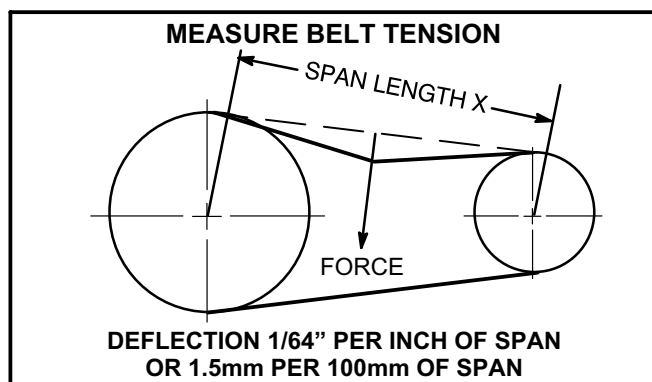

FIGURE 22
- 1- Measure span length X. See figure 22.
- 2- Apply perpendicular force to center of span (X) with enough pressure to deflect belt $1/64$ " for every inch of span length or 1.5mm per 100mm of span length.